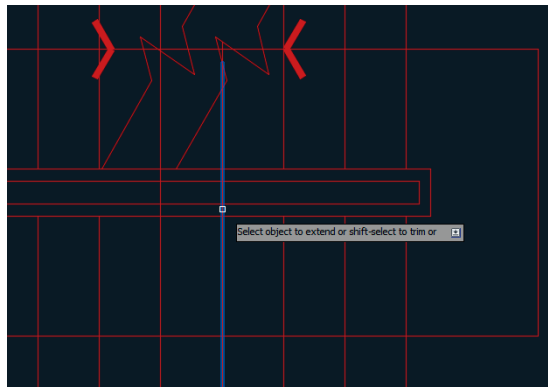

FIGURE 4.23 Trimming with the EXTEND command
6. Press the spacebar to repeat the EXTEND command, select the upper and lower railings, and press Enter. Hold Shift and click each one of the treads passing through the handrail. Press Esc when you have removed all five line segments (see Figure 4.23).